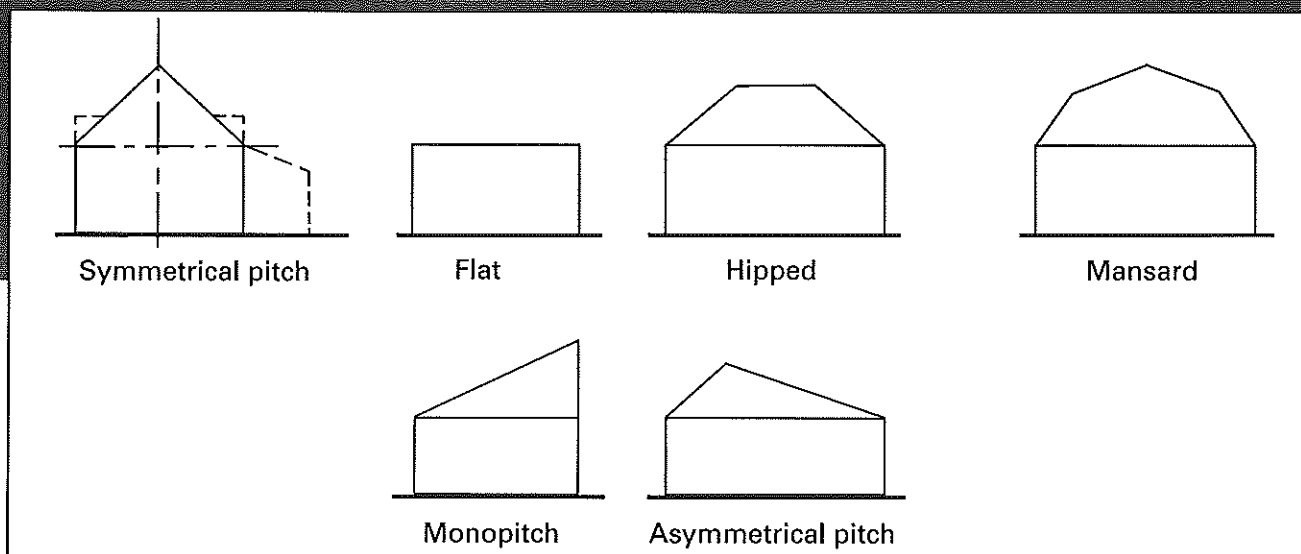

Figure 9 ROOF TYPES
2.4 Building Form and Roof Types (Figure 9)